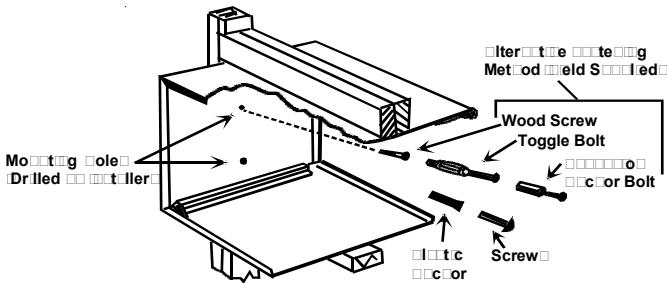

Figure 9
- Attach the sleeve using four 2x2 wood screws (for wood constructed buildings) or four 2x2 Masonite screws (for cement or rock constructed buildings) (Figure 9). Make sure the wall construction is adequate to support the unit.